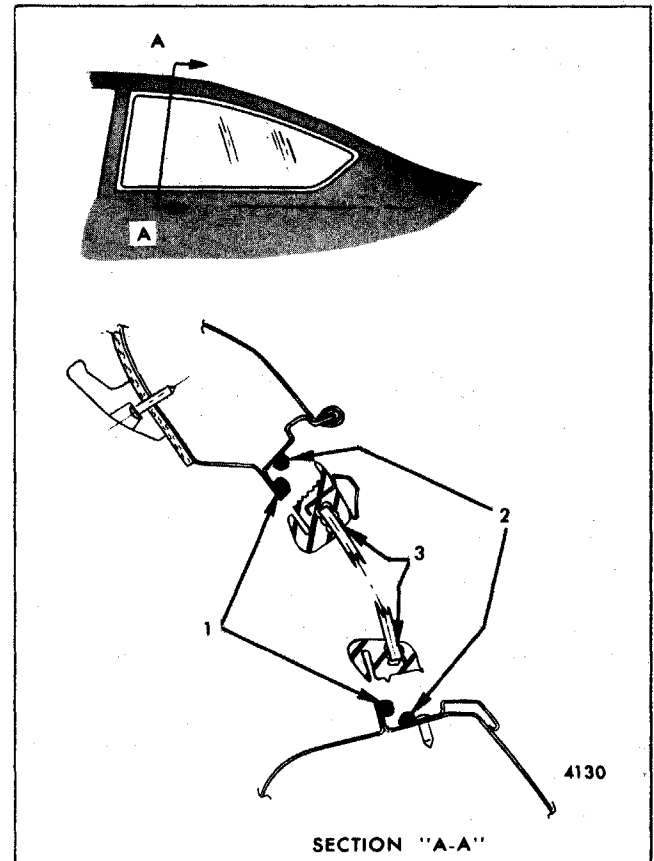

Fig. 11-16-Stationary Quarter Window Installation
4. Apply a continuous bead of medium body sealer approximately 6 mm (1/4") in diameter to window opening pinchweld flange ("1" in Fig. 11-16) completely around window opening.
5. Apply a second continuous bead of medium body sealer to window opening ("2" in Fig. 11-16) to seal outboard lip of rubber channel.
8. Using a pressure type applicator, apply black weatherstrip adhesive between outer lip of rubber channel and glass completely around rubber channel ("3" in Fig. 11-16).